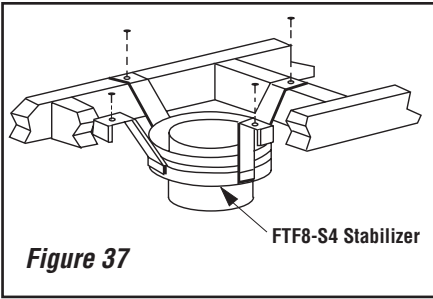

Figure 37
Install the Model FTF8-S4 stabilizer by fitting inner section down into respective section of proceeding flue pipe and locking outer stabilizer section into place over the outer chimney pipe. Position for proper clearance through framed opening and nail straps securely (under tension in "shear") into place on framing. Use 8d nails. Attach successive lengths of chimney pipe directly to stabilizer using same techniques as described in **Step 4** (see **Figure 37**).
Step 1. Use the Offset Chart (**Table 4**) to determine amount of horizontal offset (A) and height (B) for various chimney section assemblies.
Step 3. Use Elevation Chart as job estimator only. Add necessary firestop spacers and stabilizers as required. Firestop spacers must be used as shown in **Figures 31 & 32** and stabilizers as shown in **Figure 37**.